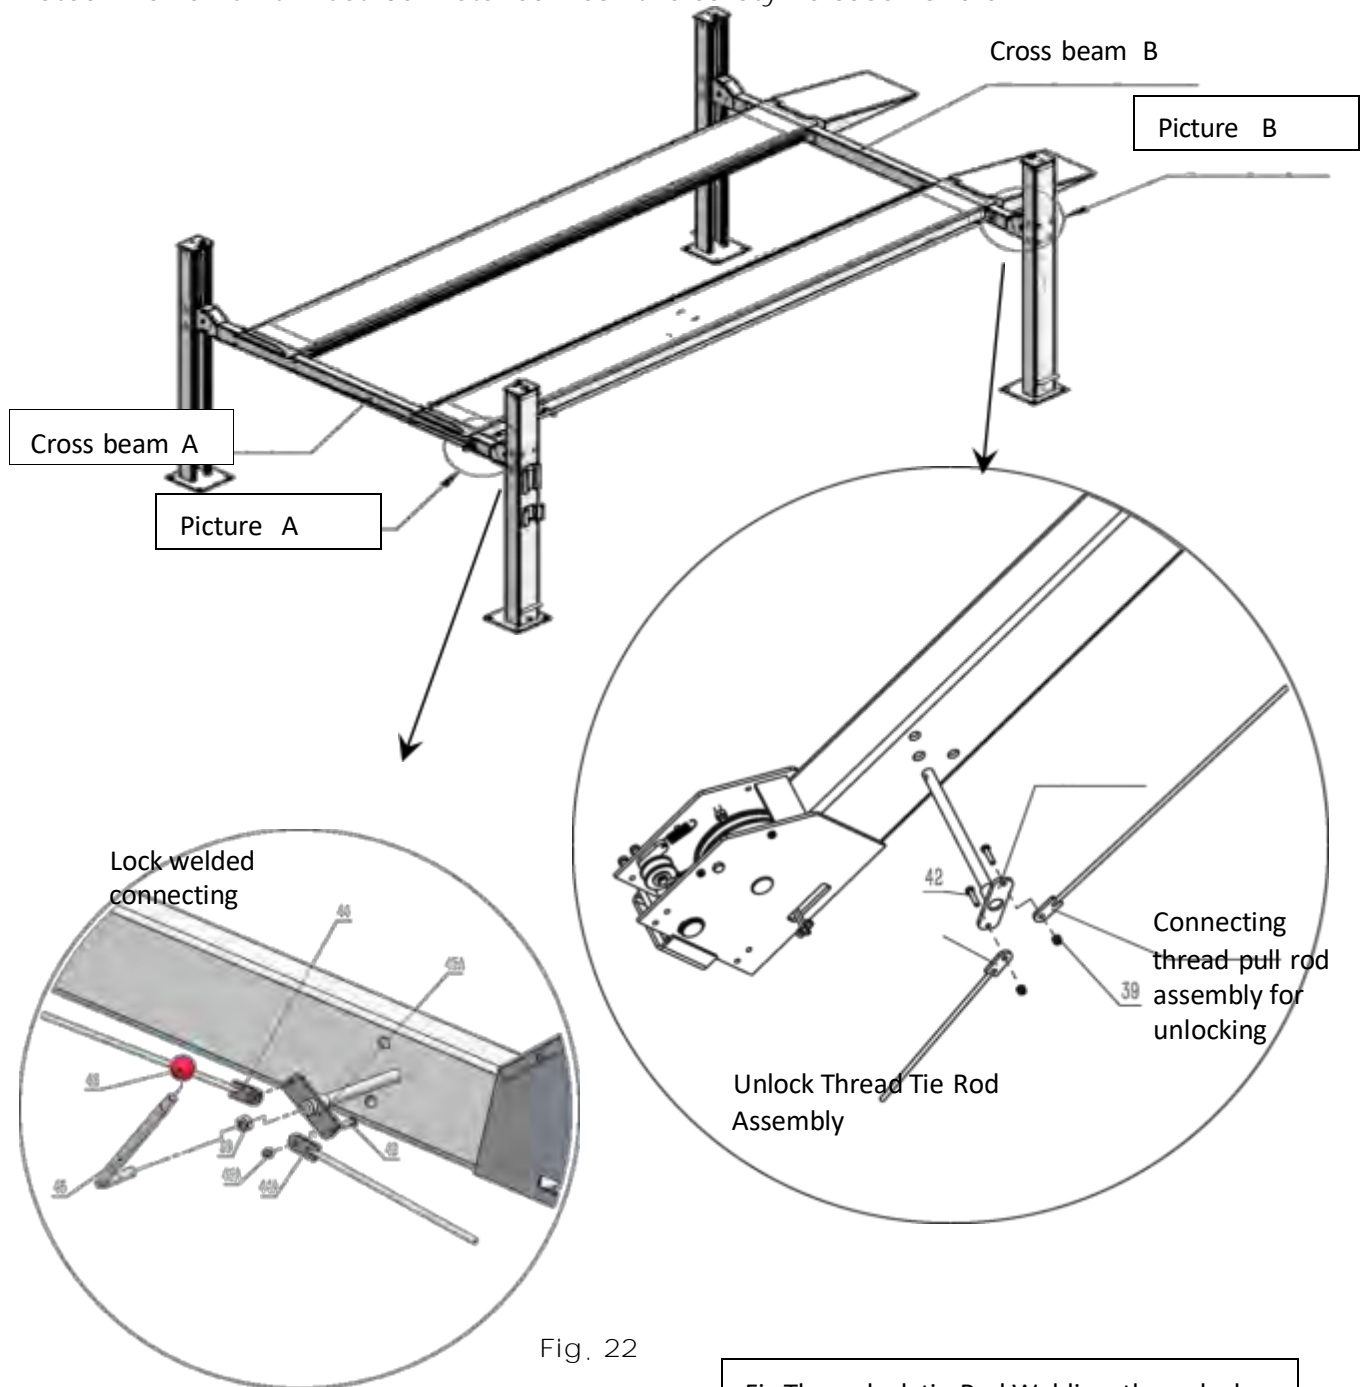

Fig. 22
I. Install release handle assy. (See Fig. 22)